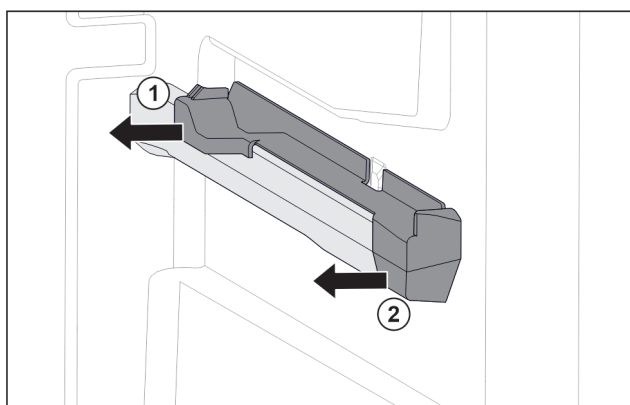

Fig. 127 Attachment on the right moulded rib
- Pull off attachment at the back sideways. Fig. 127 (1)
- Pull off attachment at the front sideways. Fig. 127 (2)